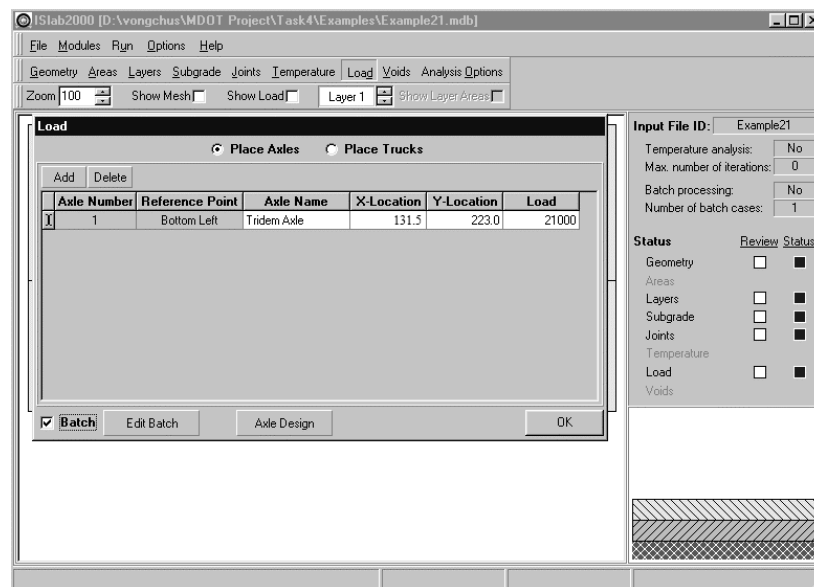
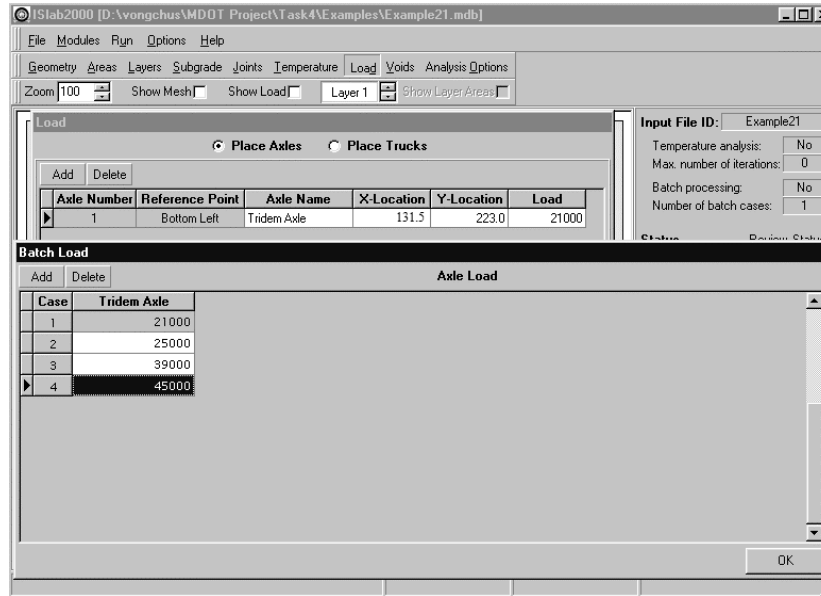

Figure E21-3: Edit Inputs for the Load Module (continued)
Figure E21-4: Edit Inputs for the Load Module (continued)
- Step 12: Select **Batch**, and then click **Edit Batch** (see Figure E21-3) to open the batch load panel (see Figure E21-4).